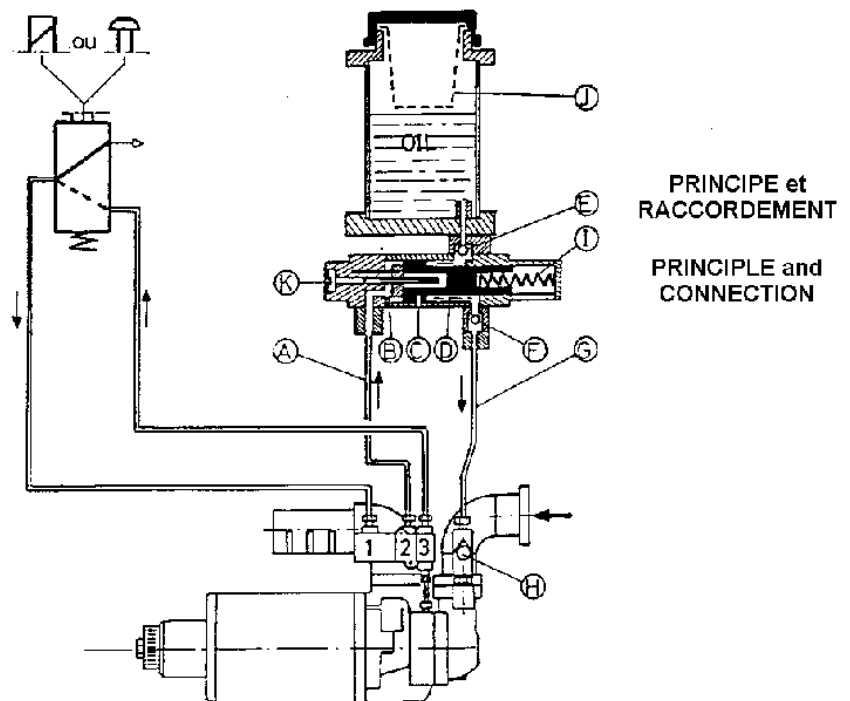
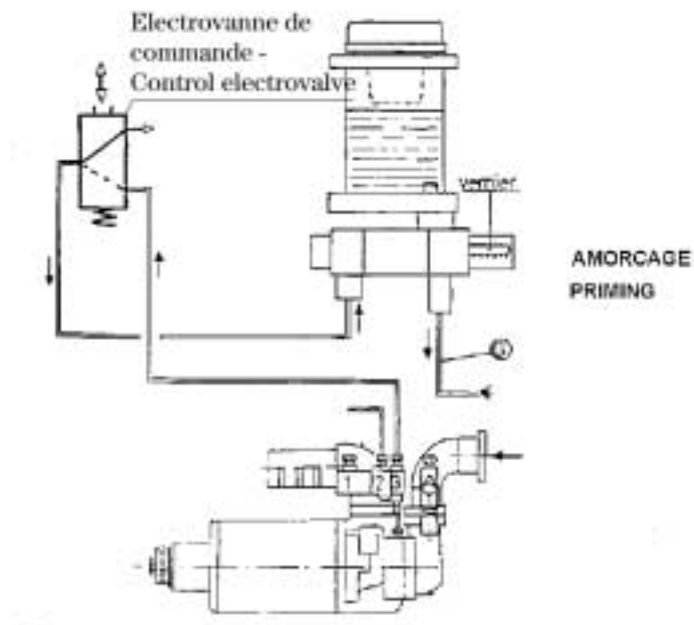

Fig. 21-3
Fig. 21-4
Connect the servolubricator as per Fig. 21-3. Adjust flow rate to maximum (Screw (K) cf. Fig. 21-3).
Operate the control (cf. Fig. 21-4 and Fig. 21-5) several times until oil flows from pipe (G). Then connect as per Fig. 21-3 and adjust to the required flow rate (cf. chap. 21.3.5).